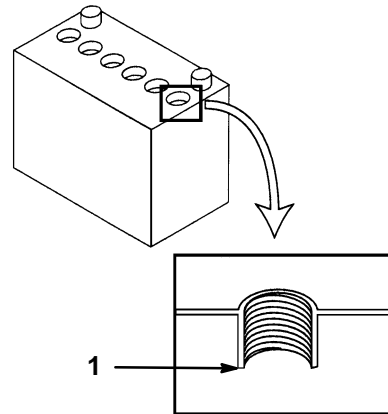

Figure 57
4. Open the cell covers to see into the cells. The electrolyte must be up to the lower part of the tube (Fig. 57). Do not allow the electrolyte to get below the plates.
2. Lift off the filler caps (Fig. 57).
3. Slowly pour distilled water into each battery cell until the level is up to the lower part of the tube (Fig. 57).